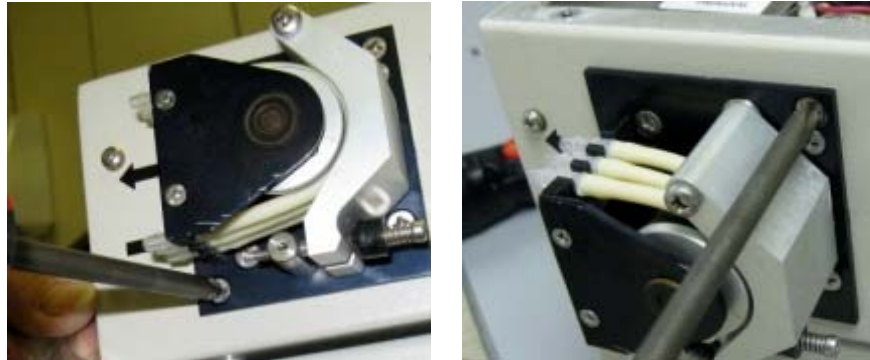

Fig. 3
- 5) Remove the (2) screws and nuts that hold the pump to the chassis. **Figure 3**